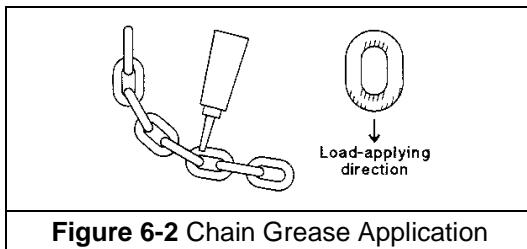

Figure 6-2 Chain Grease Application
- Apply only Harrington Hoist, Inc. food grade lubricant (Part No. 2AFG003S1951) to the bearing surfaces of the load chain links as indicated by the shaded areas in Figure 6-2. Also apply the lubricant to the areas of the load chain (shaded areas in Figure 6-2) that contact the load sheave. Ensure that the lubricant is applied to the contact areas in the load sheave pockets.